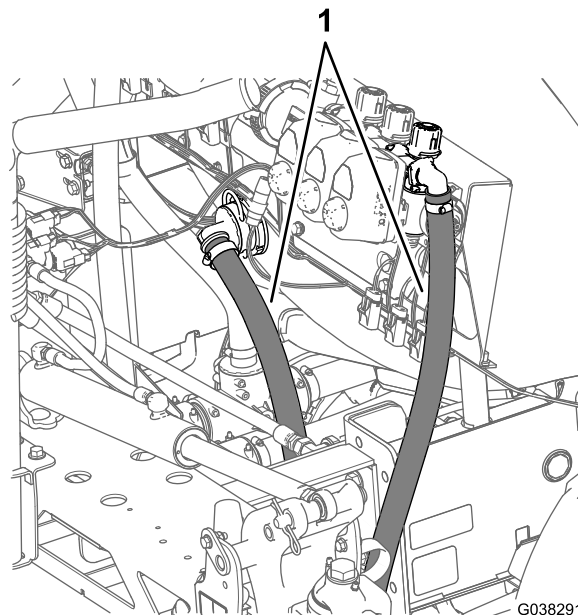

Figure 78
2. Route the section bypass hose around the right frame channel toward the bulkhead fitting in the sprayer tank as shown in Figure 78.